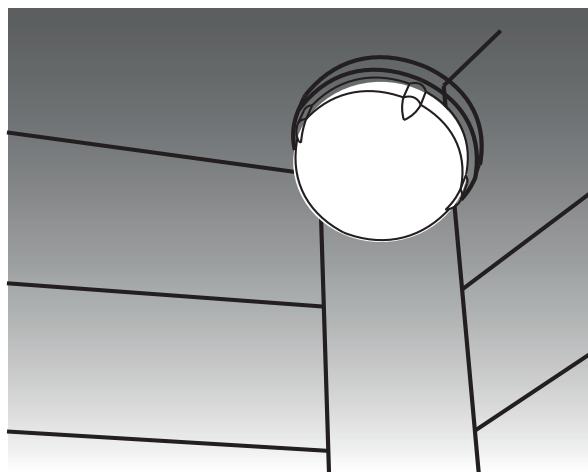

Figure 11: Wall oven Halogen light
1. Open oven door completely, horizontal with floor (Figure 11).